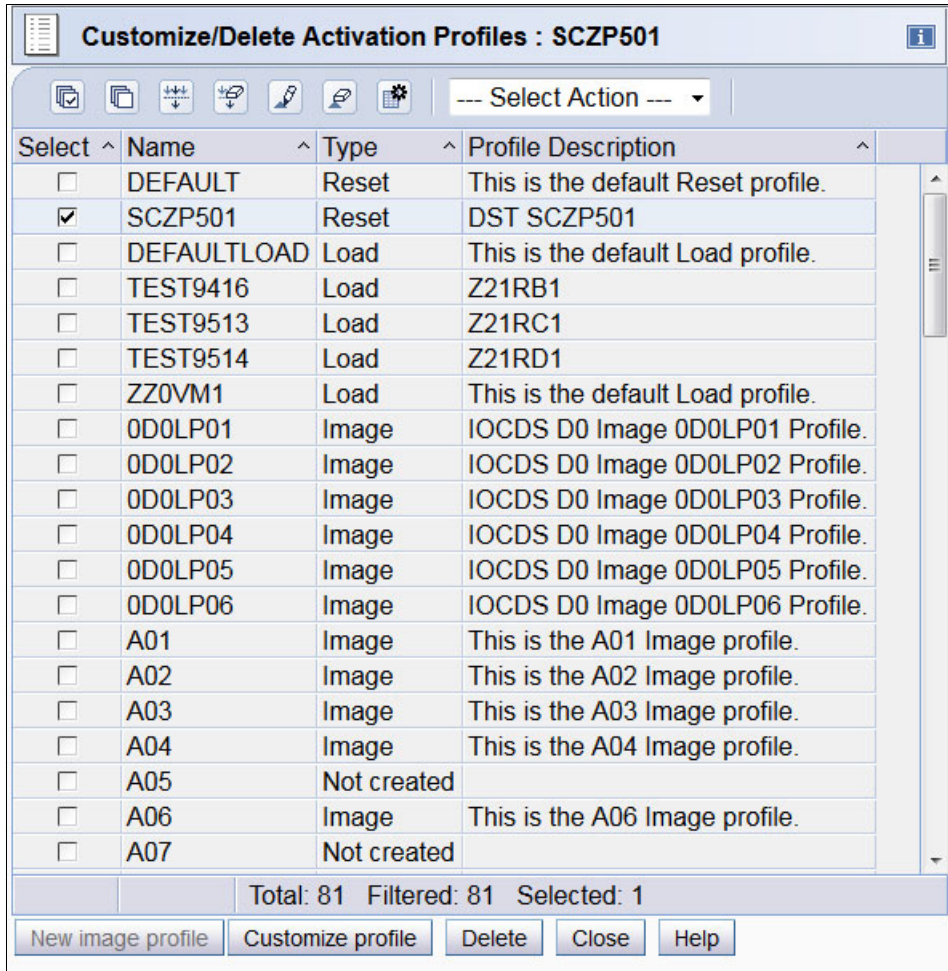

Figure 11-12 The HMC: Customize/Delete Activation Profiles
2. Select the reset profile you want and click **Customize profile** (Figure 11-12).